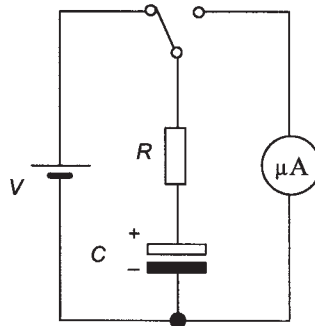

Figure 20.28 Activity 1
- 1 Determine the graph for the variation of current with time for the discharge of a charged capacitor. Figure 20.28 shows a possible circuit; possible values to give a discharge graph which will take a reasonable amount of time are $C = 500 \mu\text{F}$, $R = 100 \text{ k}\Omega$, $100 \mu\text{A}$ meter, $V = 10 \text{ V}$ or $C = 10\,000 \mu\text{F}$, $R = 5 \text{ k}\Omega$, 1 mA meter, $V = 10 \text{ V}$.